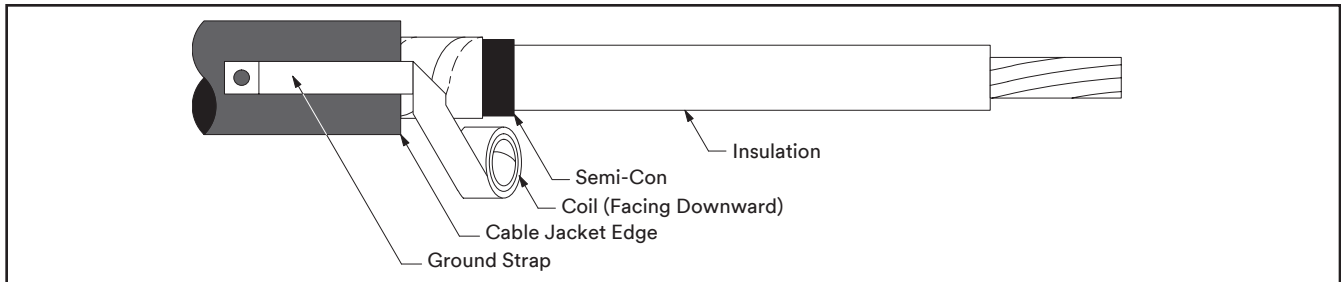

Figure 2
3.2 Lay ground strap along cable with the extended coil facing downward (away from you) (Figure 2).